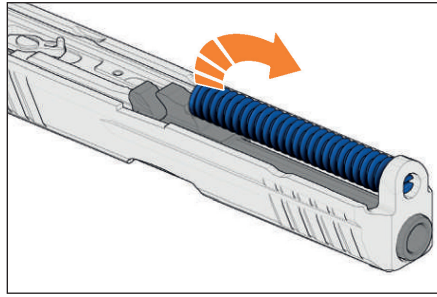

Figure 20 – Removing the recoil spring
4. Turn the slide upside down and carefully push the recoil spring forward and out to either the left or right side, separating the recoil spring from the barrel and slide (see Figure 20).